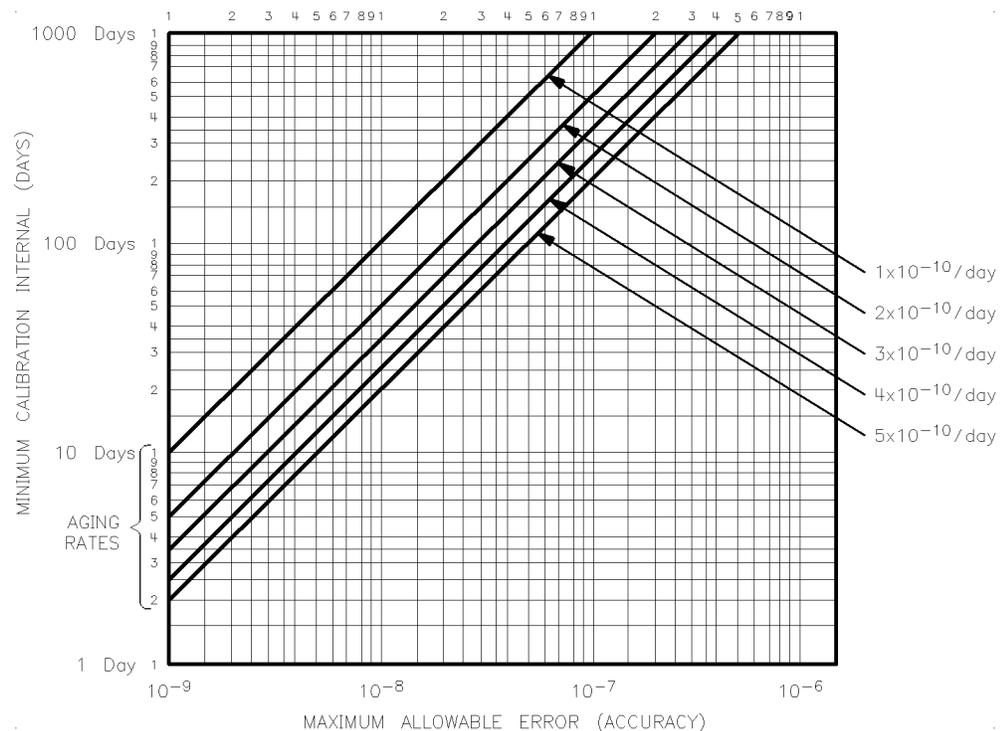

Figure 3-3. Accuracy Versus Adjustment Interval
This procedure adjusts the frequency accuracy of the internal 10 MHz time base. This adjustment should be done on a regular basis if absolute frequency accuracy is important (see Figure 3-3.)
Figure 3-3 shows the required adjustment interval to maintain a given accuracy. If you know the aging rate, you can determine a more precise adjustment interval.
1. Find the line on Figure 3-3 that corresponds to the 10 MHz timebase oscillator aging rate. (To determine the aging rate, see "Performance Tests".)